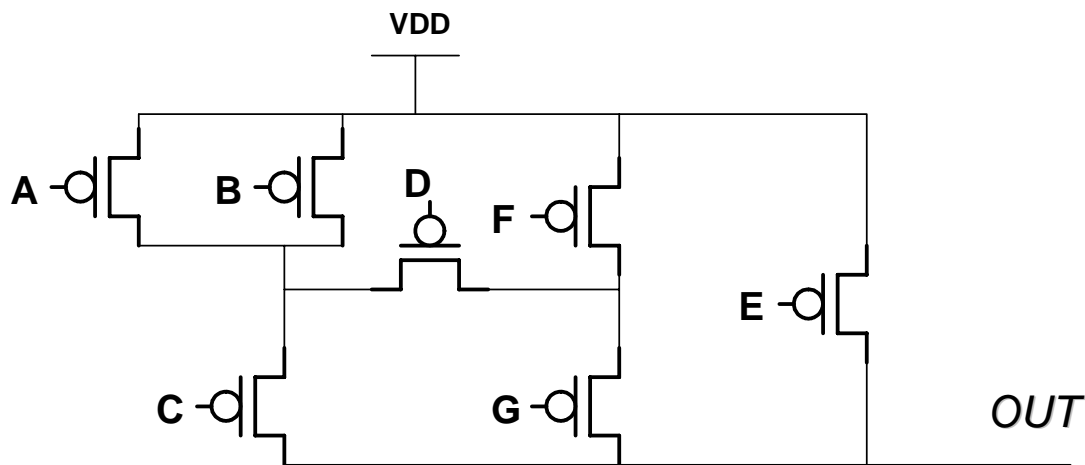

Figure 2.1
2. a) Express node OUT in terms of the gate inputs (A,B,C,D,E,F,G) in Figure 2.1? [4 points]
- b) Draw the corresponding pull-down network for Figure 2.1, minimizing transistor count and minimizing the number of devices connected to node OUT. [4 points]
- Size all devices in the complex gate of Figure 2.1 to match the worst-case output resistance of INV1 with the above sizes. [5 points]